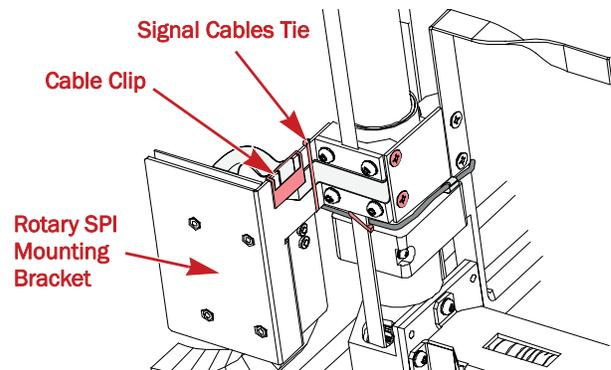

Figure 2. Reverse Angle of Rear Z-Axis Assembly
2. At the top of the Rotary SPI mounting bracket, remove and retain the **cable clip** holding the signal cables (Figure 2).